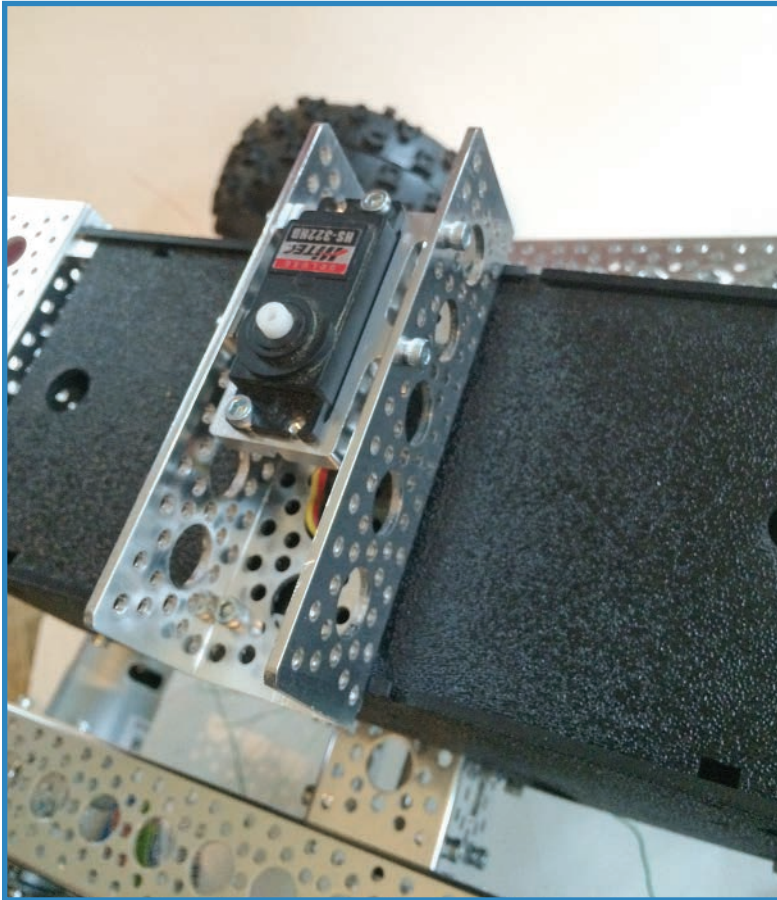

FIGURE 13.21 Install the servo in the top channel.
12. Install the servo in the top channel, as shown in Figure 13.21. Keep the servo's hub as close to the middle of the channel as you can. The servo's wires can be stuck through the center hole of the channel.